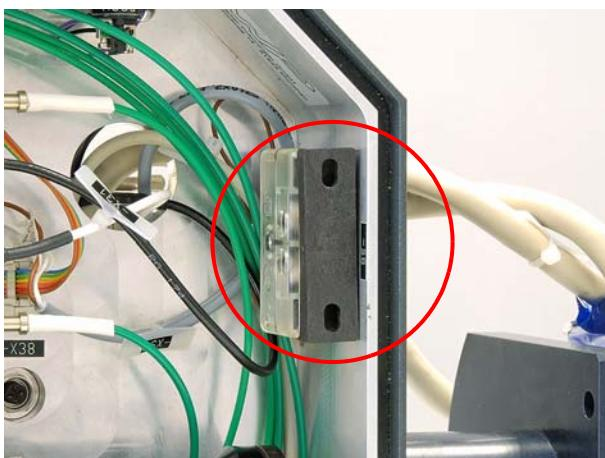

Figure 7.84 Interlock switch bridged
24. Bridge the interlock switch (Figure 7.84).